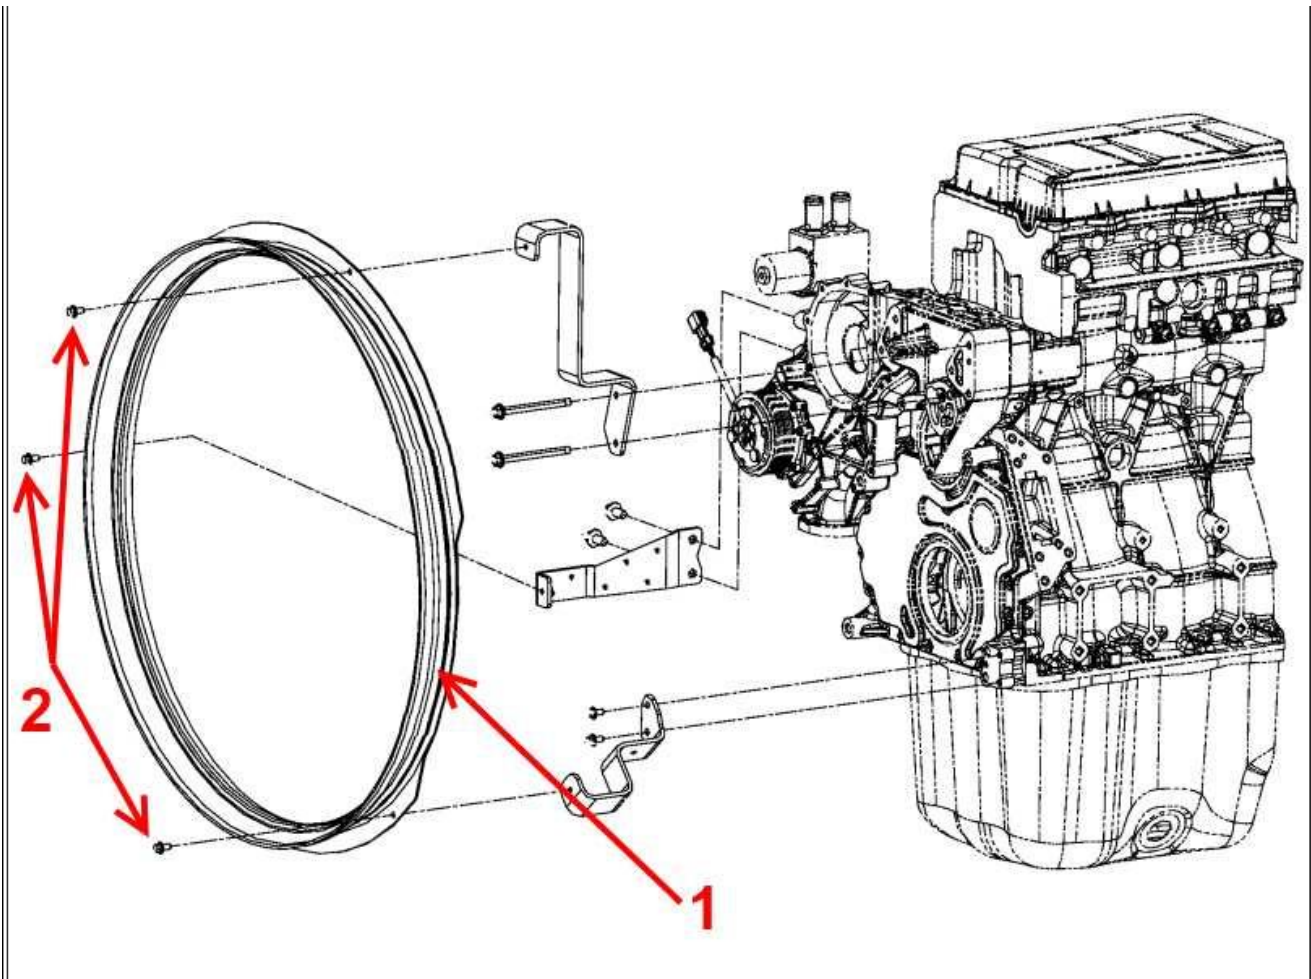

Figure 8: Fan Shroud Ring
19. Remove the three bolts securing the fan shroud ring to their respective brackets (**Figure 8**, Item 2).